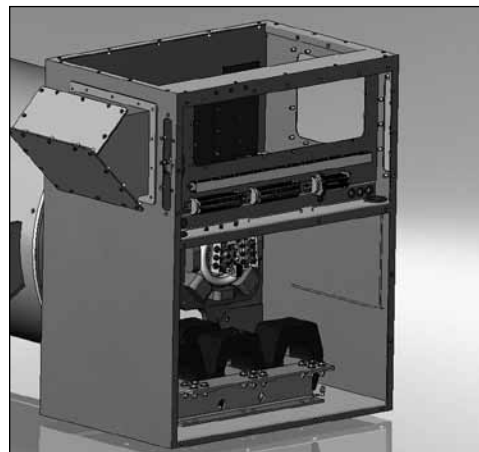

Figure 6-1
3. Remove conduit box covers. (Figure 6-1)